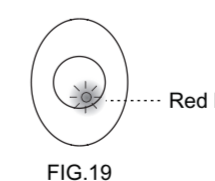

FIG.19
- 4.2.1.1 A red LED is built-in for KDP-9 2C and KDP9 360 MINI, when detector is triggered, it will turn on for approx. 2sec for clear operation (See FIG.19).